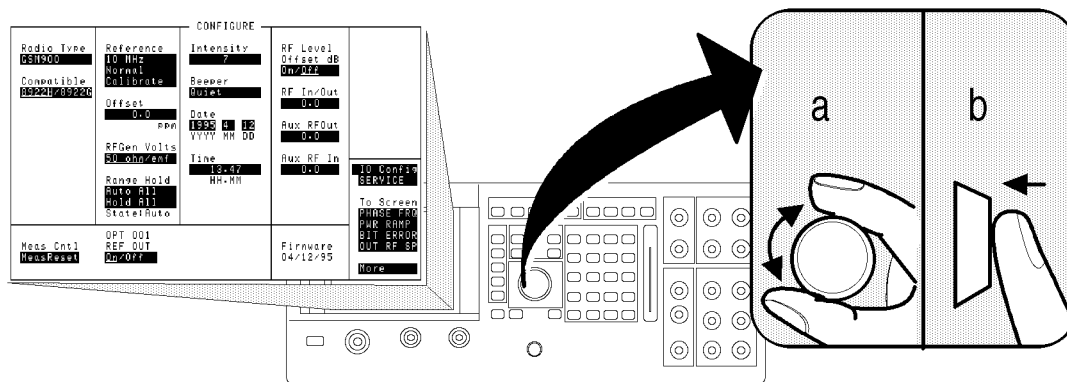

Figure 1-3 Access CONFIG Screen
- Moving to the **CONFIG** field in the bottom right-hand corner of the Cell Control screen, (the first screen that appears after power-up or after selecting **PRESET** ). Rotate the cursor control knob (refer to “a”, see Figure 1-3 on page 1-6) until you are on the CONFIG field.
- Selecting the **CONFIG** field by pushing the cursor control knob (diagram “b”, see Figure 1-3 on page 1-6).